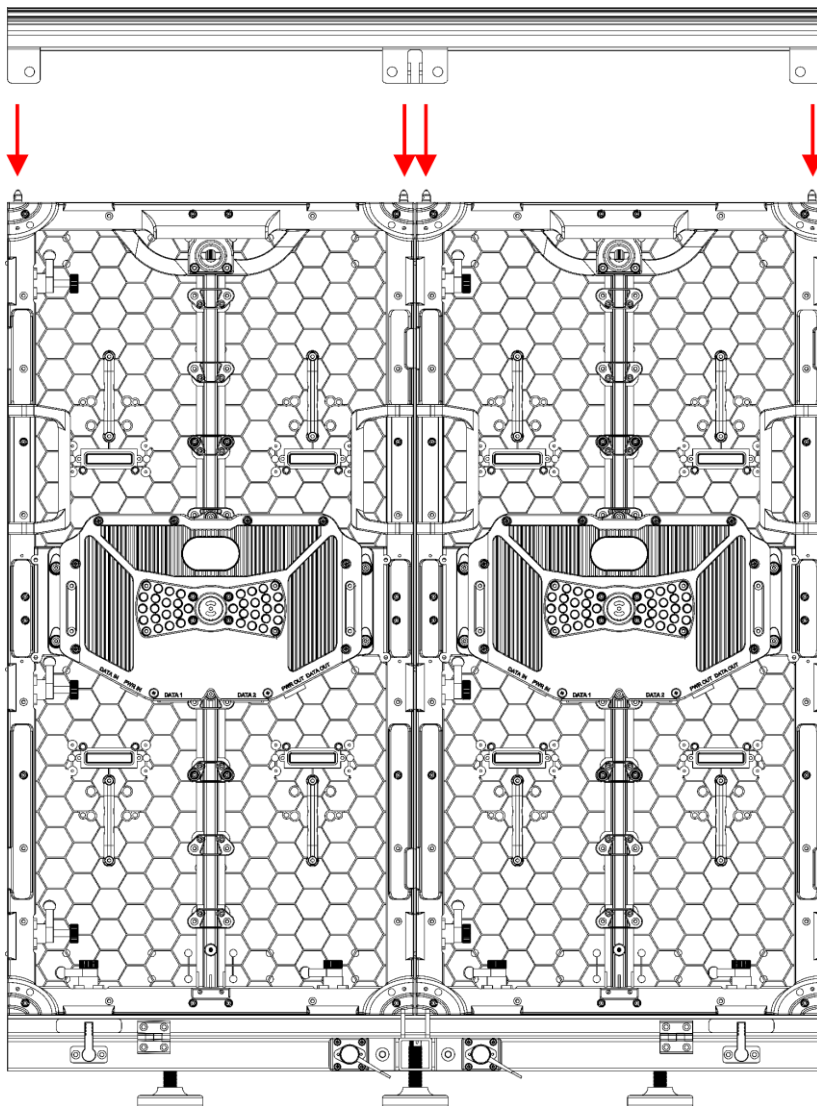

Fig. 16
- 01) Put the **top frame (A)** on the Premiere LED panel so that the mounting pins on the Premiere LED panel fit in the 4 **pin openings (04)** of the **top frame (A)** (Fig. 16).